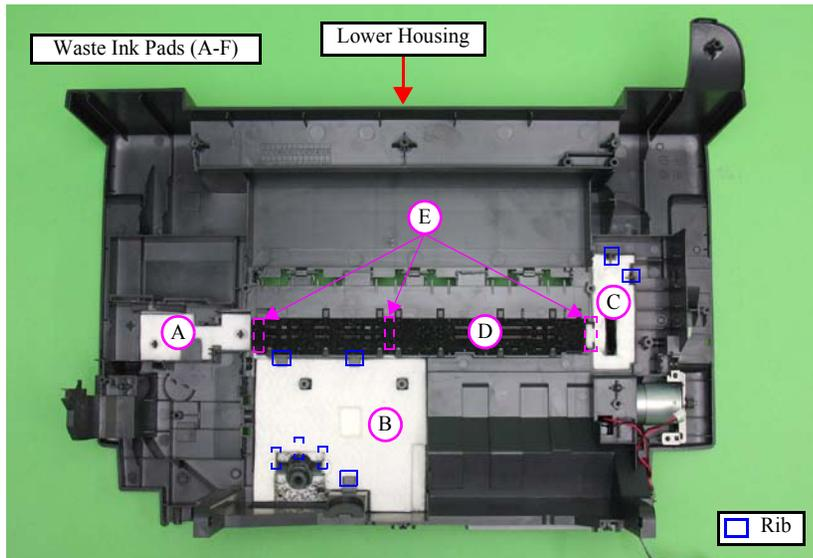

Figure 4-100. Removing the Waste Ink Pads
- When installing the Waste Ink Pads, align the ribs of the Lower Housing with the notches of the Waste Ink Pads. (See Fig.4-100.)